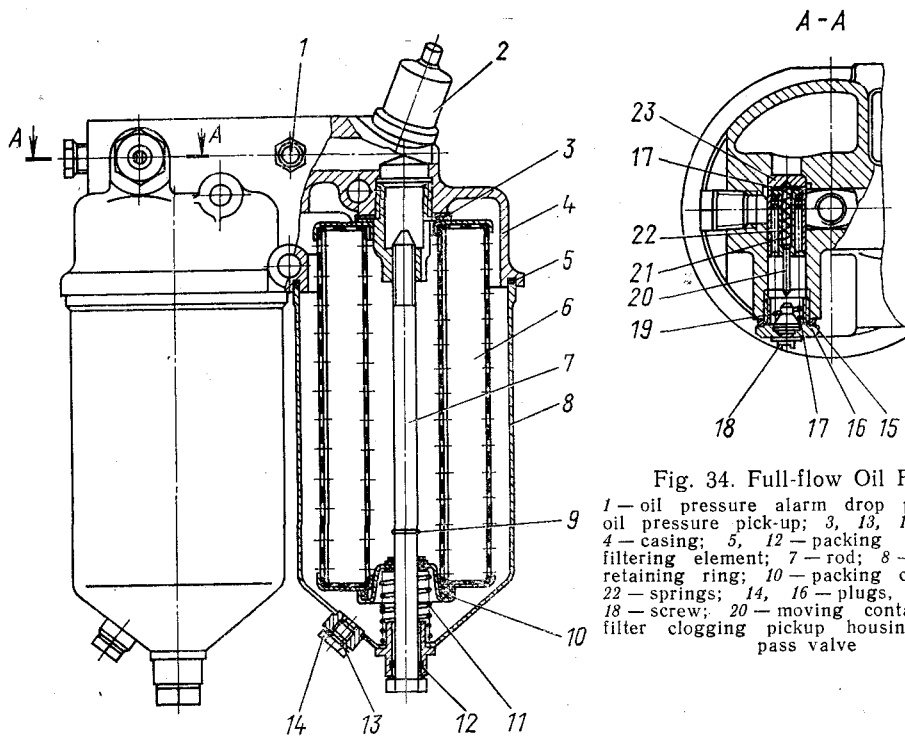

Fig. 34. Full-flow Oil Filter:
Full-flow oil filter (Fig. 34) is secured to the cylinder block right-hand wall; it comprises two replaceable filtering elements. By-pass valve *23* is built in the filter casing, having a contact-type pickup. The valve opens when the pressure before and after the filtering elements rises to 250—300 kPa (2.5—3.0 kgf/cm²). If the filter resistance increases (due to clogging of filtering elements, solidification of oil at low temperatures), oil is supplied to the main line of the lubrication system through the by-pass valve, escaping filtering element *6*. When by-pass valve *23* operates, the contacts close in the warning indicator and lamp (indicator) *5* (see Fig. 15) glows on the instrument board inside the cab. This lamp may glow only when the engine is started and the crankshaft rotates at minimum rotational speed.
The filter casing houses oil pressure pickup *2* (see Fig. 34) and oil pressure alarm drop pickup *1* in the main line. If the oil pressure drops lower than 70 kPa (0.7 kgf/cm²), lamp (indicator) *2* (see Fig. 14) glows on the instrument board.
- screw out drain plugs *14* (see Fig. 34) on hoods *8* and drain the oil;